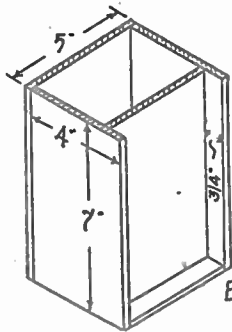

Fig. 1
The article is made of 1/2 in. fretwood. Fig. 1 (A) and (B) show the main portions of the box, (A) being the bottom and (B) the carcase or principal part of it. Cut the bottom first, and then the remainder, which is fitted together round it. In the centre of the bottom piece strike the 1 1/2 in. circle shown, and to this, on opposite sides of the circle, pencil in the lugs seen, 1/2 in. wide and 1/2 in. long. Saw out with a fretsaw and place this piece apart, it will be needed later on.